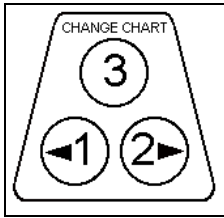

Figure 5: Push buttons.
While the recorder is operating normally (recording temperature or some other variable), press and hold the "change chart" button (#3) for approximately one (1) second until the pen begins to move to the left and then release the button (refer to Figure 5). Wait until the pen has moved onto the pen lift ramp (if available) or near the edge of the chart paper and stops. When the "change chart" button (#3) is pressed again, the pen will begin to move back onto the chart briefly stopping at the outermost graduation of the chart.
After the recording unit has been powered-on and is operating normally (recording temperature or some other variable), press and hold the "change chart" button (#3) for approximately one (1) second until the pen begins to move to the left and then release the button (refer to Figure 5). Wait until the pen has moved onto the pen lift ramp (if available) or near the edge of the chart paper and stops. Press and hold the left arrow (#1) or right arrow (#2) button for approximately eight (8) seconds and then release the button. Refer to Figure 5 for a diagram of the buttons.